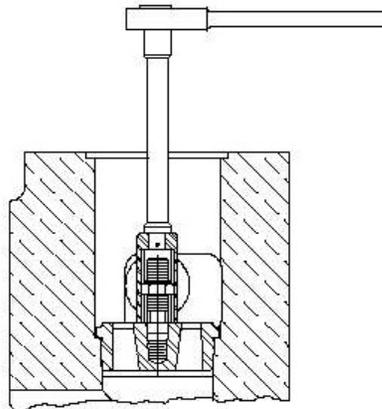

Figure 18
- c. Remove the stud from the seat. Stud is made from stainless steel and is not strong enough to be used to pull the seat. Screw the special long hex nut from the servicing kit on valve stud and firmly lock into place with standard hex nut. With a socket wrench on a special hex nut, remove the stud. (Figure 18).